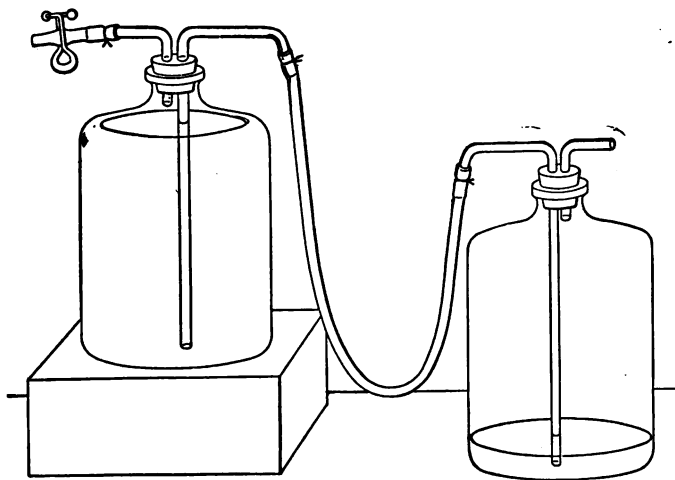

FIG. 28.
M. Well, we could take an empty india-rubber balloon and fill it with oxygen and then press it; then the oxygen would stream out of the opening. But I will show you how a proper gasometer is made. I have here two very large flasks which are provided with corks, in each of which are two holes. Through one hole a siphon of glass goes to the bottom, through the other, a short bent tube (Fig. 28). Both siphons are connected by a piece of rubber tubing, and one flask is filled with water.